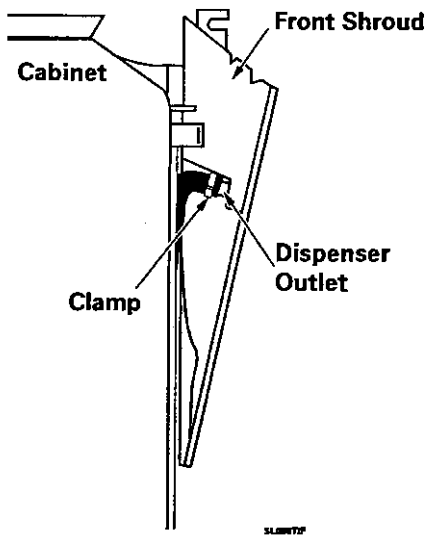

Figure 5-9
8. Carefully press in on the sides of the plastic shroud to allow the hose clamps on the dispenser outlet hoses to clear the metal bridge support surrounding the shroud (*Figure 5-9*).
9. Tilt the top of the plastic shroud forward at a 40 degree angle and slide the shroud to the right approximately one inch. Note: You may have to lightly press in on the the upper sides of the plastic shroud to enable the lower dispenser outlet hose clamps enough clearance to pass the metal side supports (Figure 5-9). Lift the shroud from the shroud support bridge.